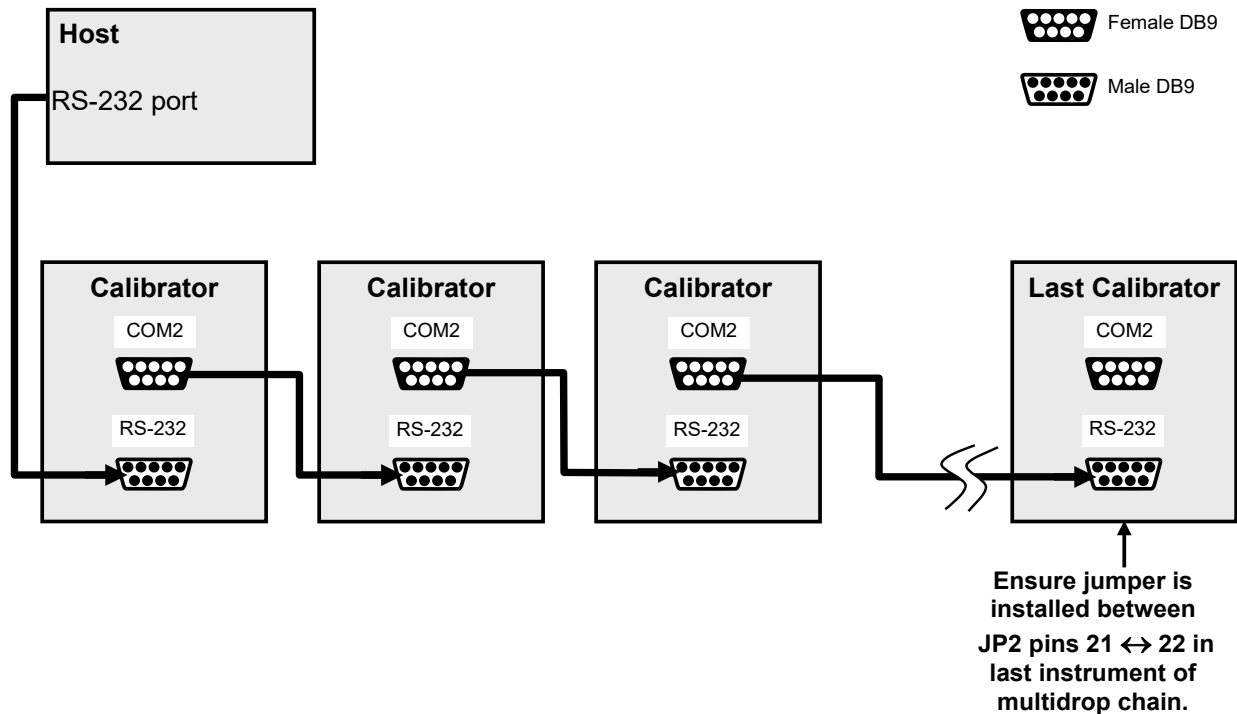

Figure 2-11. RS-232-Multidrop PCA Host/Calibrator Interconnect Diagram
5. Referring to Figure 2-11 use straight-through DB9 male → DB9 female cables to interconnect the host RS232 port to the first calibrator's RS232 port; then from the first calibrator's COM2 port to the second calibrator's RS232 port; from the second calibrator's COM2 port to the third calibrator's RS232 port, etc., connecting in this fashion up to eight calibrators, subject to the distance limitations of the RS-232 standard.